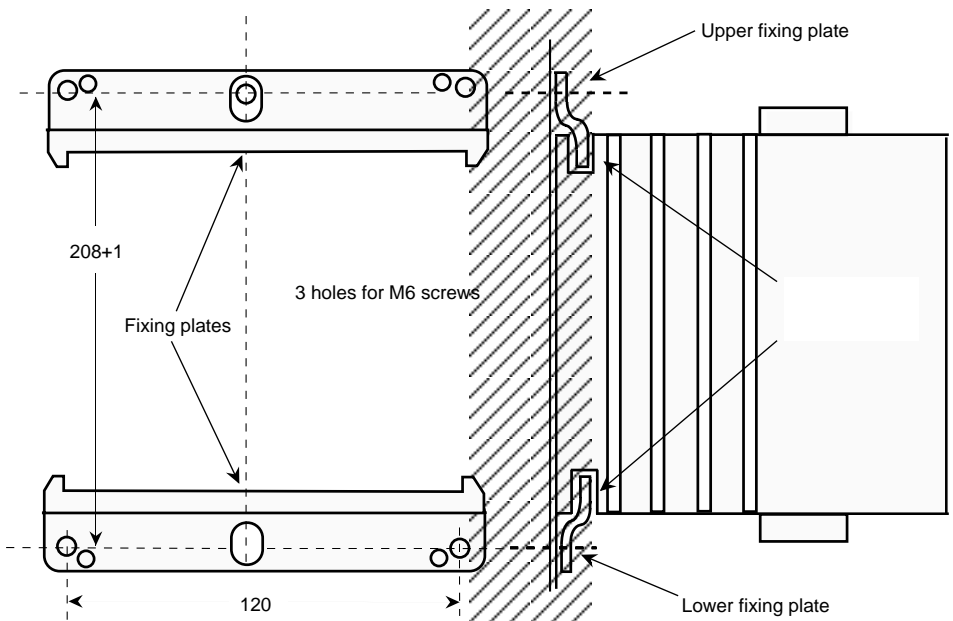

Figure 2-4 Bulkhead drilling and mounting dimensions (in mm) for the **TE300** controller
- Drill three holes for M6 screws following the dimensions given in Figure 2-4